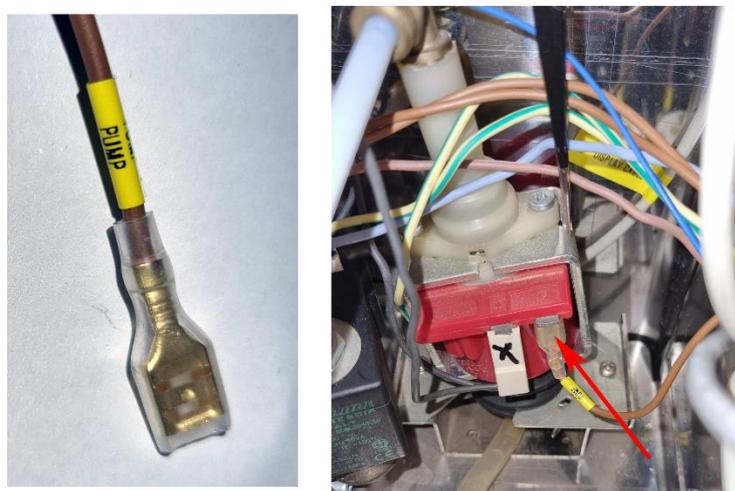

Fig. 10.6
- PUMP connector will go to the pump (fig. 10.6)